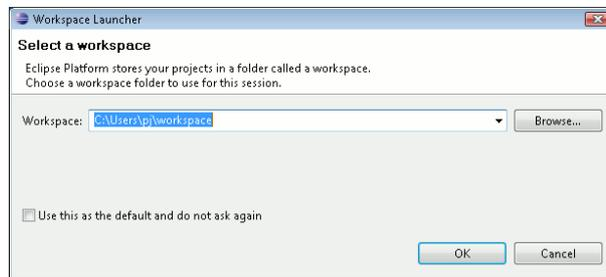
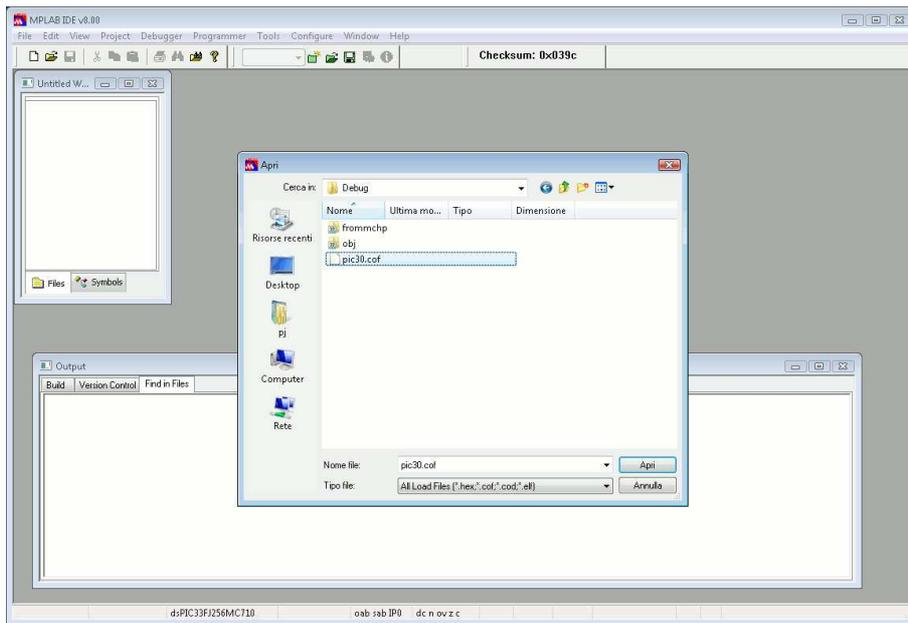

Figure 4.1: This screenshot shows the dialog box for the choice of the current workspace directory.
Figure 5.10: Select the COFF file you want to import.
2. A dialog box will appear, asking to choose the right workspace (see Figure 4.1). Leave the default workpackage directory as it is, and proceed by pressing “OK”.
- A dialog box appear. Please select the pic30.cof file that has been produced by the compilation process in Eclipse, as shown in Figure 5.10. You can find that file inside the Eclipse workspace you selected at the beginning in Figure 4.1. In this example, the file is stored inside the directory `c:\Programmi\Evidence\eclipse\workspace\pic30_oo_mono\Debug`.